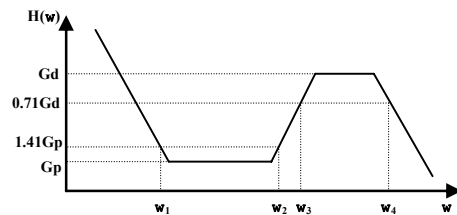

Figure 9 Transfer Function of the Compensation Network
The transfer function of the compensation network, defined as  $H(w)=VDR(w)/TMO(w)$ , is shown in figure 9.
- d.  $C_D \cdot R_i$  determines the corner frequency,  $w_2 = 1 / (C_D \cdot R_i)$ , where the differential component starts picking up (see Figure 9), as the frequency goes up.